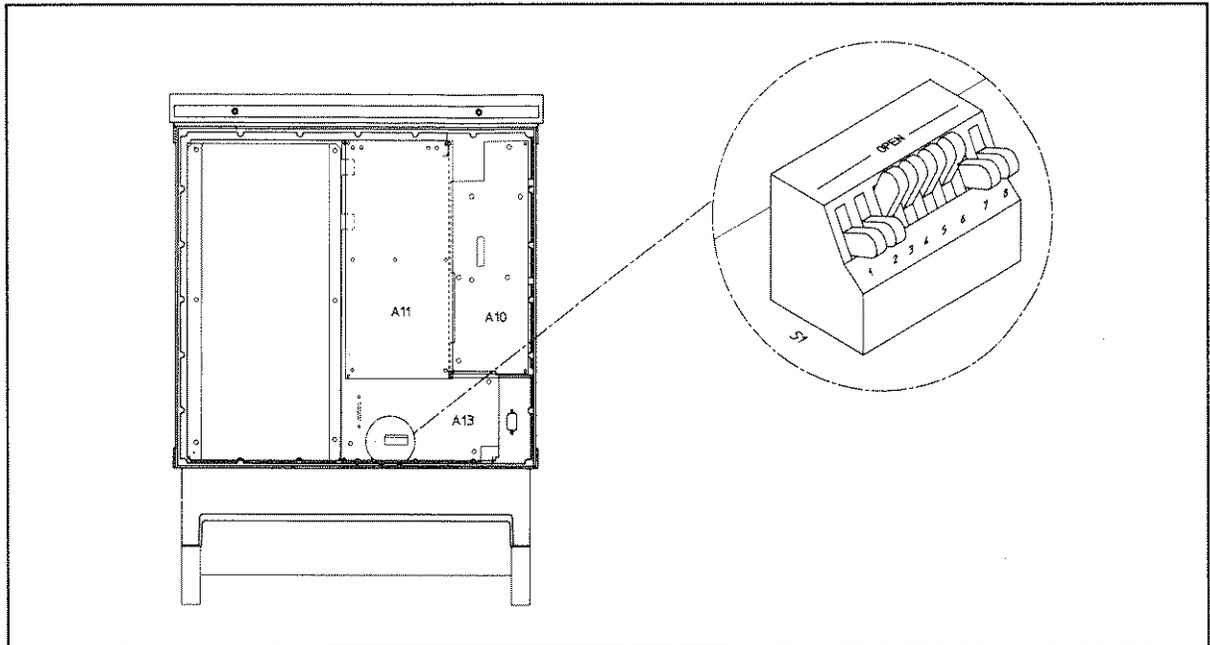

Figure 2-3. HP-IB Address Switch Location
- c. Refer to Figure 2-3. Locate the HP-IB address switch S1 on the A13 Microprocessor assembly.